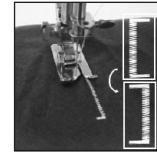

Fig.18
- (5) Raise the presser foot, rotating the cloth for 180° (Fig.18).